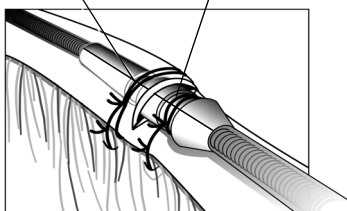

Figure 11. Using the sleeve with the venous cutdown technique.
1. Place the suture sleeve over the lead body. Slide the suture sleeve into the vein past the distal pre-formed groove. Ligate the vein around the suture sleeve to obtain hemostasis. Next, using the same groove, secure the lead and vein to the adjacent fascia (Figure 11).